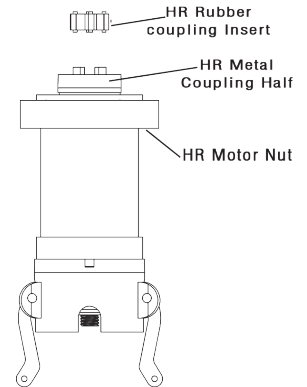

Figure 1
1. Locate the rubber coupling insert that was separately shipped in a plastic bag (see Figure 1).